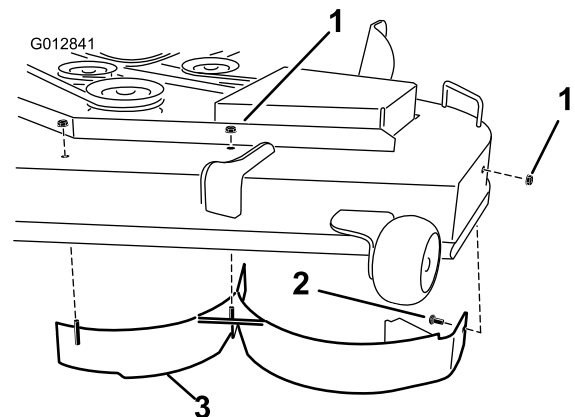

Figure 28
5. Remove the 2 locknuts (5/16 inch) secured to the welded posts of the left baffle on the top of the mower deck at the center and left of center positions (Figure 28).
7. Remove the left baffle from the mower deck as shown in Figure 28.